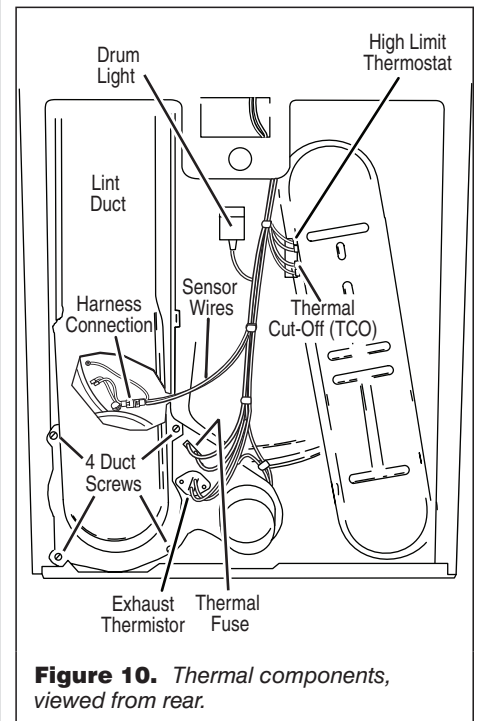

Figure 10. Thermal components, viewed from rear.
Locate the components using figure 2, page 5; and figure 10.
5. Locate the high limit thermostat. See figure 10. Measure the continuity through it by connecting the meter probes on the red wire and blue wire terminals.
- Check wire connections at the machine control electronics and thermistor. See Accessing & Removing the Electronic Assemblies, page 11; and for thermistor location, figure 10, page 7.
2. Access the thermal fuse by first removing the back panel. See Removing the Back Panel, page 11; and for thermal fuse location see figure 10, page 7.
3. Using an ohmmeter, check the continuity across the thermal cut-off. See figure 10, page 7, for location.
- Remove four screws from bottom of the duct in rear. See figure 10, page 7.